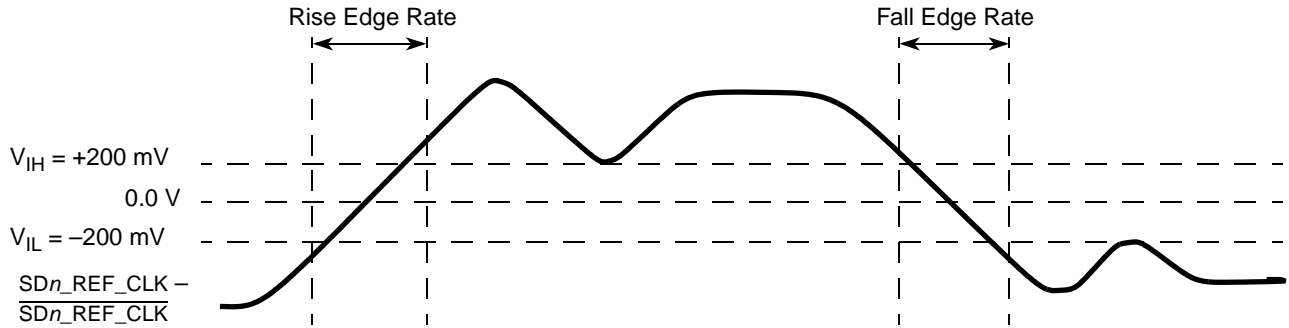

Figure 48. Differential measurement points for rise and fall time
3. Measured from -200 mV to +200 mV on the differential waveform (derived from $\text{SD}_n\text{_REF_CLK}$ minus $\overline{\text{SD}_n\text{_REF_CLK}}$). The signal must be monotonic through the measurement region for rise and fall time. The 400 mV measurement window is centered on the differential zero crossing. See Figure 48.